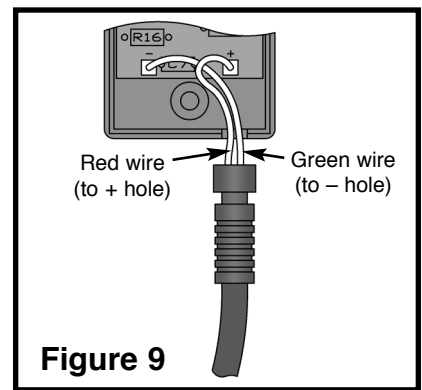

Figure 9
- ❑ Install the power cord as shown in Figure 9. Solder the red wire to hole marked “+” and the green wire to the hole marked “-” (see Figure 9).